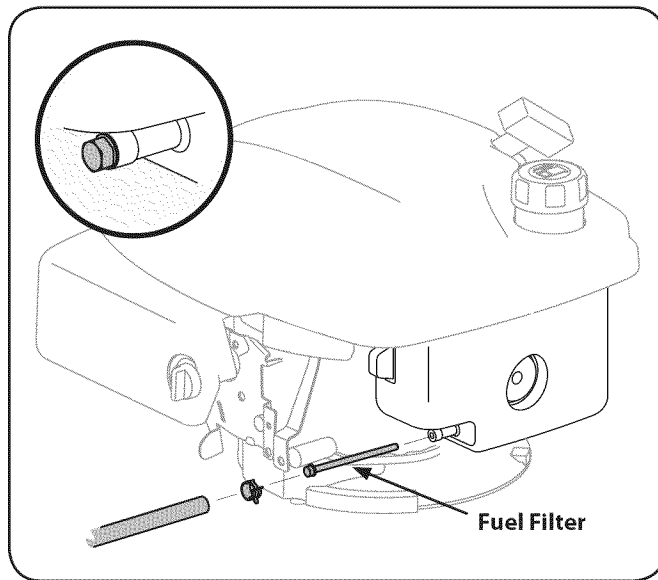

Figure 6-6
2. Remove hose clamp from fuel line and remove fuel line from tank outlet. See Fig. 6-6.
4. Grasp new fuel filter from shouldered end and insert it completely to the shoulder into the tank outlet. See Fig. 6-6 inset.